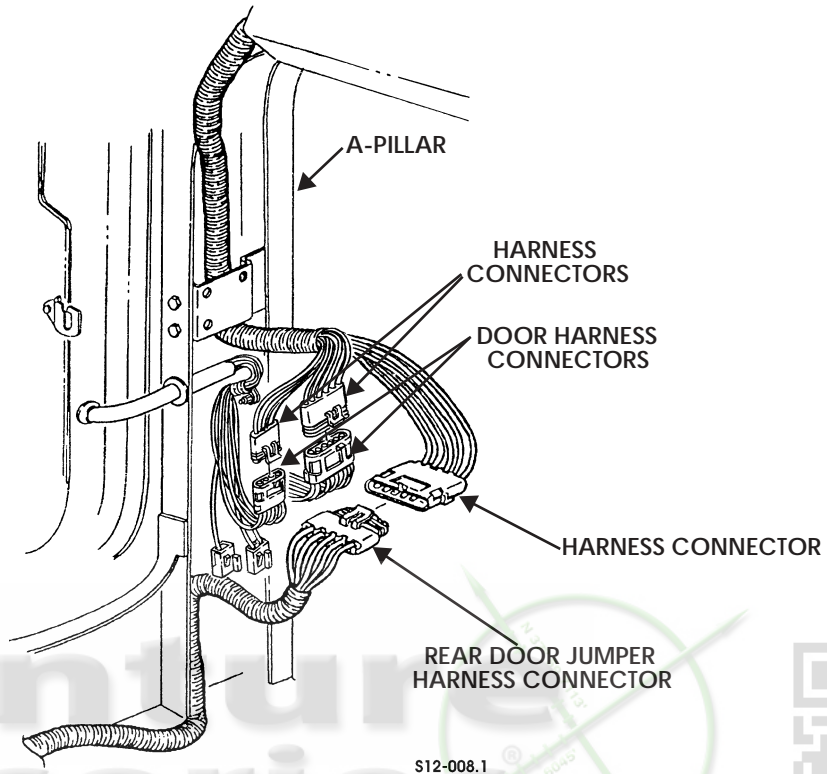

Figure 13-94: Door Harness Connectors
- Disconnect two harness connectors from door harness connectors (Figure 13-94).
- Disconnect harness connector from rear door jumper harness connector (Figure 13-94).
- Route harness through instrument panel and along A- pillar to both sides of vehicle (Figure 13-94).
- Connect harness connector to rear door jumper harness connector (Figure 13-94).